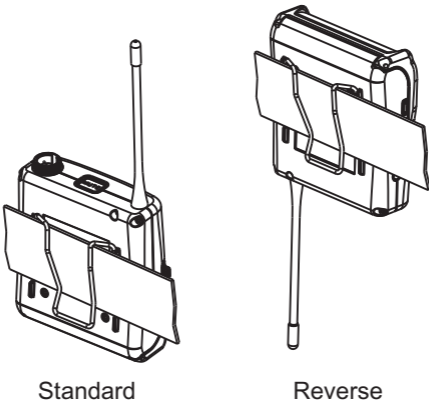

Fig. 2
- ⑪ Battery Compartment.
- ⑫ Battery Cover.
- ⑬ Remote control mute connector.
- ⑭ Reversible Belt Clip, Fig. 2.
- ⑮ Battery Charging Contact. (Rechargeable)